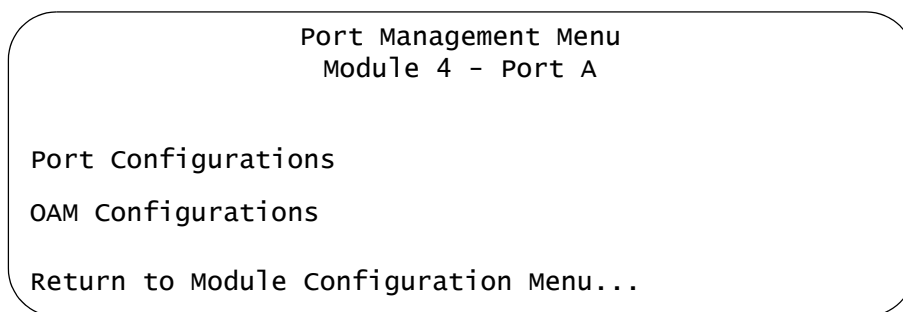

Figure 54. Port Management Menu
3. Select the port you want to configure. You can configure only one port at a time. This displays the Port Management Menu shown in Figure 54.